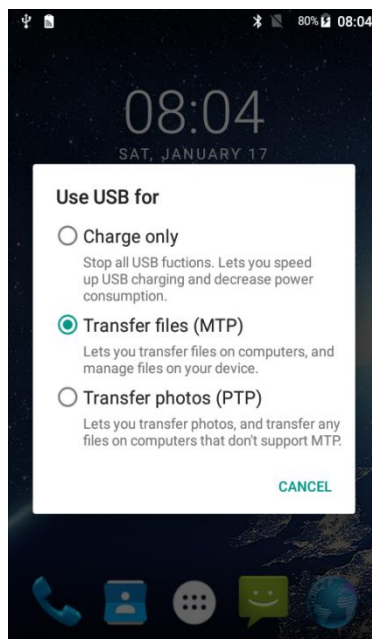

Figure 6.12 Select USB function
5. **Insert the back cover:** Insert the back cover and rotate screws clockwise to lock the back cover as shown in Figure 6.12.